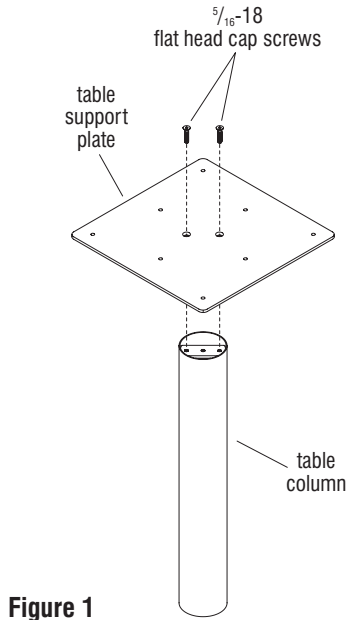

Figure 1
1. Carefully remove contents from shipping cartons and view Figures 1 & 2 to familiarize yourself with the table base parts. If the table support plate was shipped attached to the Athens base assembly for shipping, unbolt the two before beginning assembly.
2. Position the table support plate as illustrated over the table column. Make sure the tapered, countersunk holes in the plate are facing up for the screw heads to nest into. Attach the plate to the column using two  $\frac{5}{16}$ -18 flat head cap screws provided. Using a  $\frac{3}{16}$ " hex driver, tighten screws to between 20 and 25 foot pounds of force (Figure 1).